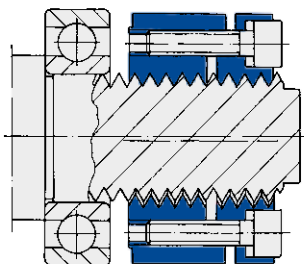

Fig. 1
2. Screw the locknut onto the spindle thread, but without making contact with the end face (Fig. 1).